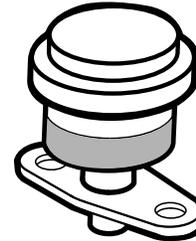

Figure 57
Service the primary air-cleaner filter only when the service indicator (Figure 57) requires it. Changing the air filter before it is necessary only increases the chance of dirt entering the engine when the filter is removed.
1. Check the filter-blockage indicator. If the indicator is red, the air filter needs to be cleaned or replaced (Figure 57).